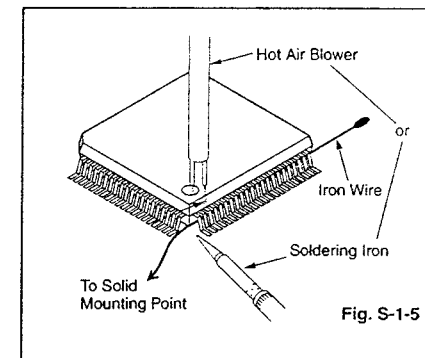

Fig. S-1-5
- Affix the wire to a workbench or solid mounting point, as shown in Fig. S-1-5.